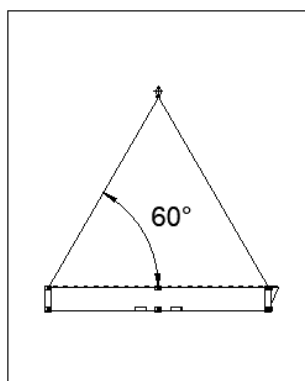

Figure 1
2. The angle between the lifting rope and the horizontal must be at least 60°. The chain length required for a 20' / 10' / 8' waste tank is at least 6 m / 3 m / 2.4 m, see Figure 1.